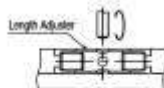

Fig. 4.
9. Adjust the bend in shutter by relvolving the length adjuster by using the key as shown in Fig. 4